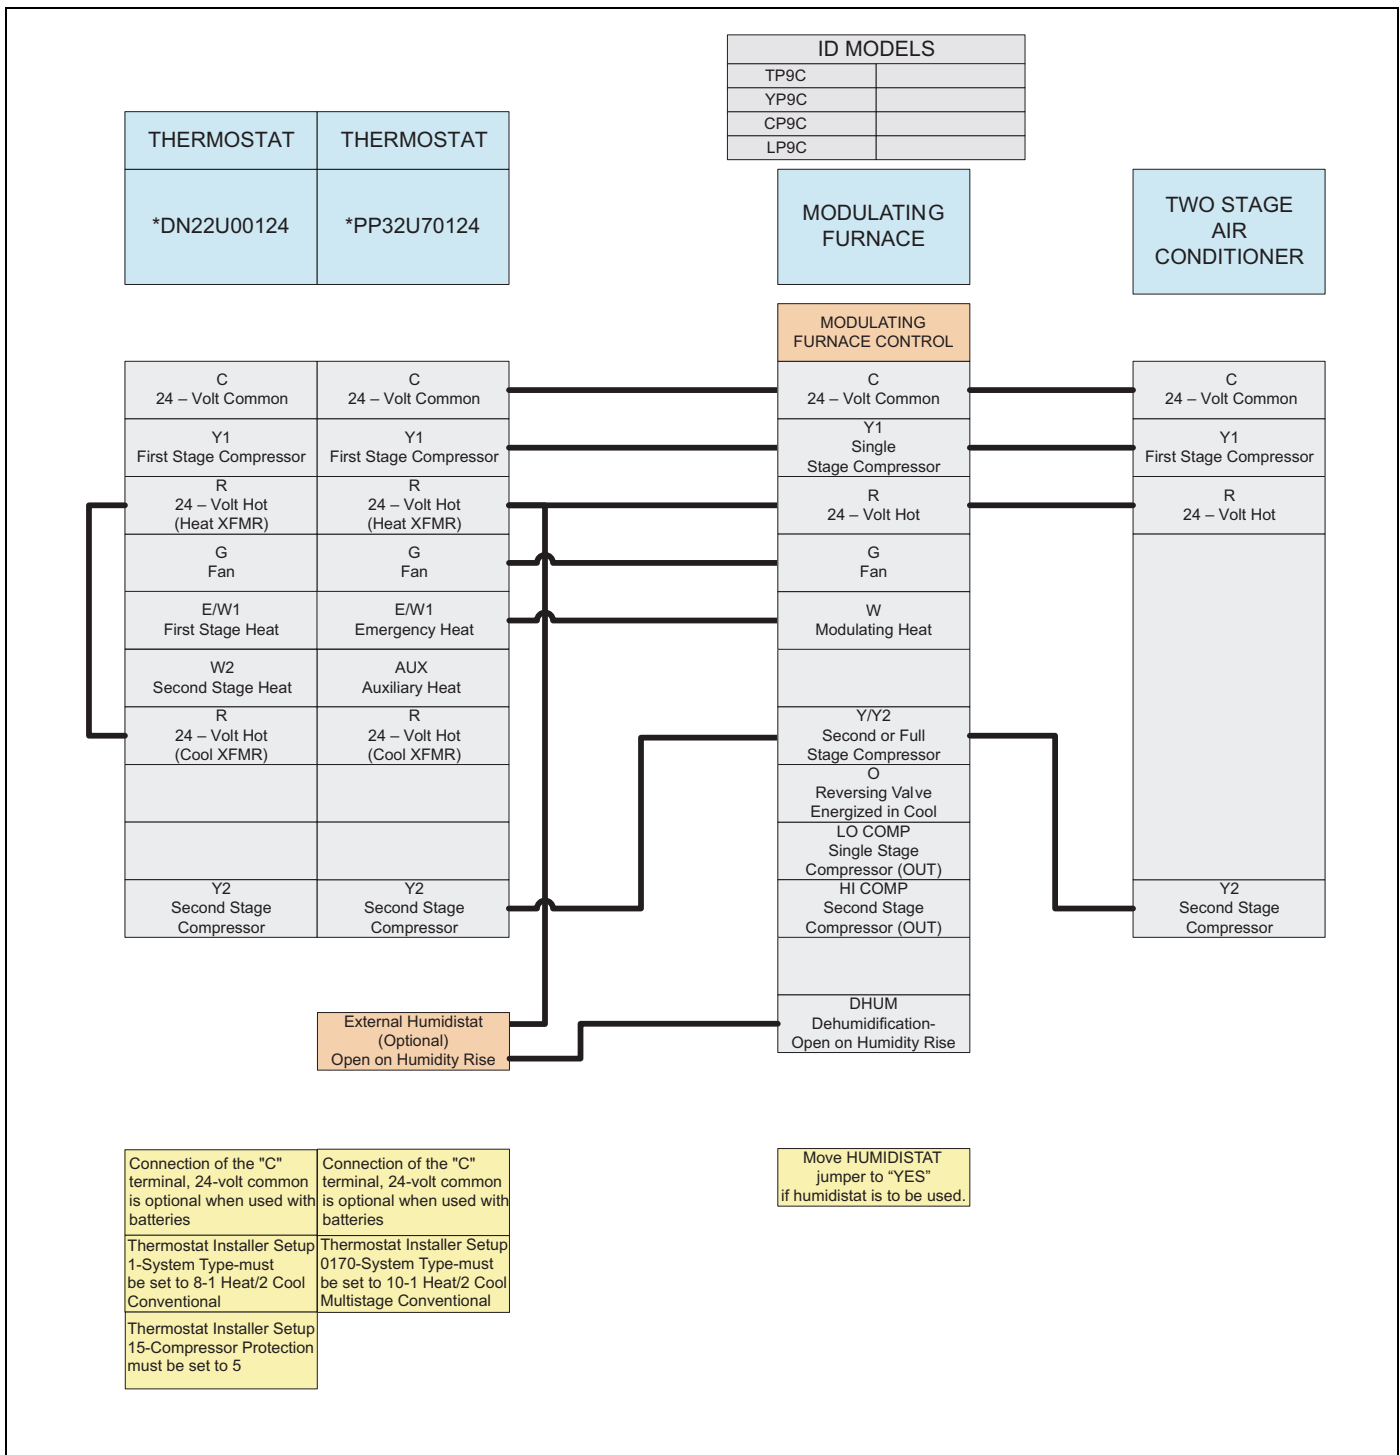

FIGURE 23: Thermostat Chart - Two Stage Air Conditioner – Variable Speed Modulating Furnace
**For Two-Stage A/C** - Use a two-stage thermostat, connect the low voltage wiring as shown in Figure 23.